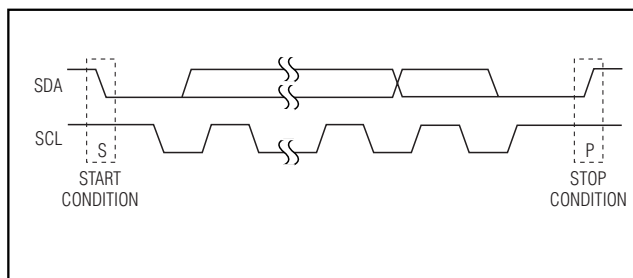

Figure 9. Start and Stop Conditions
Each transmission consists of a START condition (Figure 9) sent by a master, followed by the MAX6946/MAX6947 7-bit slave address plus the R/W bit, a register address byte, one or more data bytes, and finally a STOP condition (Figure 9).
Both SCL and SDA remain high when the interface is not busy. A master signals the beginning of a transmission with a START (S) condition by transitioning SDA from high to low while SCL is high. When the master finishes communicating with the slave, it issues a STOP (P) condition by transitioning SDA from low to high while SCL is high. The bus is then free for another transmission (Figure 9).